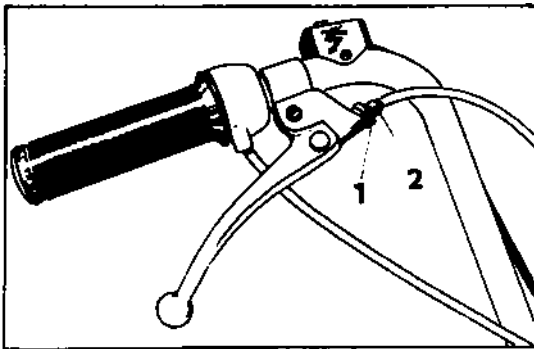
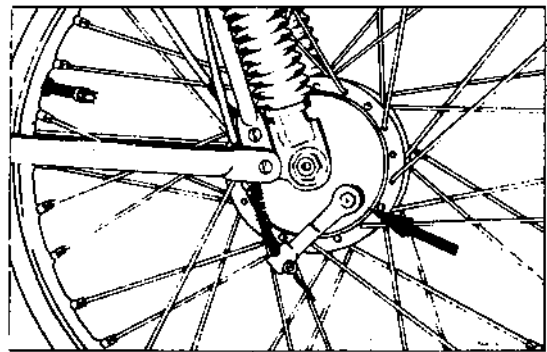

Fig.16 — Front brake adjustment
Fig. 17 — Front brake adjustment
A screw is provided on the handlebars (Fig.16) for adjusting the front brake. First loosen the knurled nut (1) of the brake by loosening or tightening screw (2) so that when pressed (pulled) toward the grip there is a clearance of 20 to 30 mm between the lever and the grip. Then retighten nut (1). When the brake lever can no longer be adjusted by means of set screw (2) adjust the required clearance by means of the brake toggle (Fig.17).